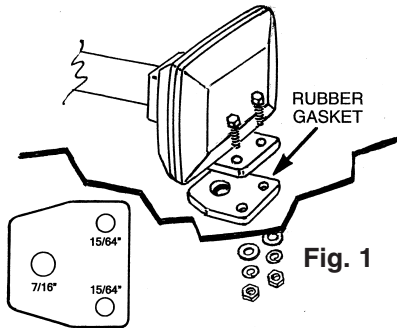

Fig. 1
1. Locate the desired area you wish to mount the Giant air horn. For best results, the front of the horn should be unobstructed so that the horn's sound can project straight ahead. Use the horn's gasket as a template, mark hole locations and drill to size. See fig. 1.